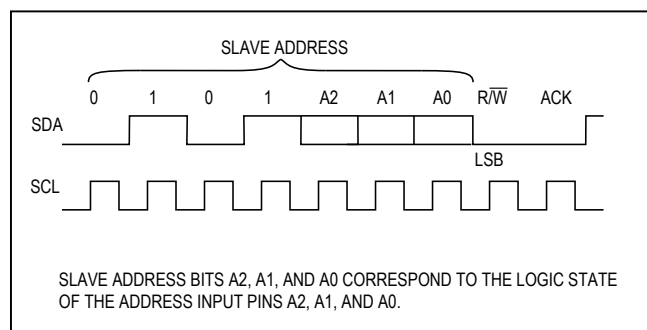
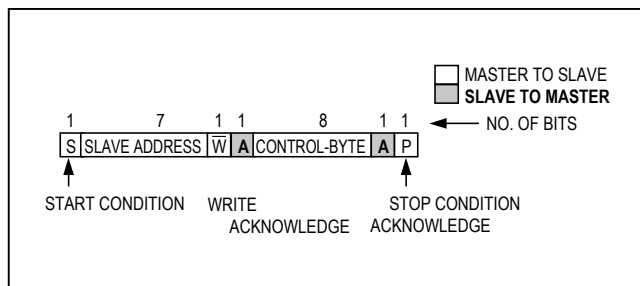
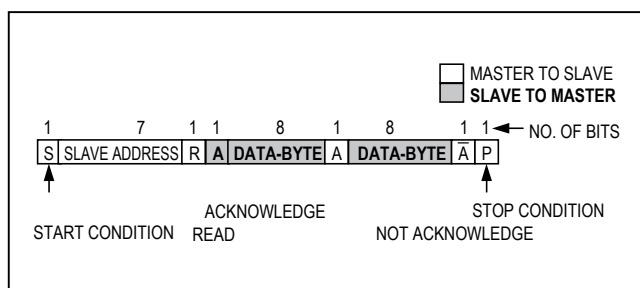
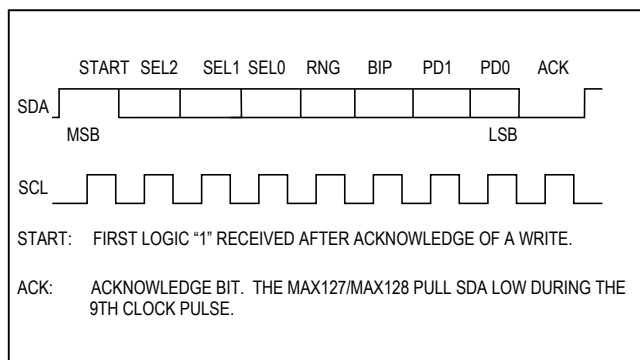

Figure 3. Address Byte
Figure 6. Write Cycle
Figure 7. Read Cycle
Figure 8. Command Byte
The MAX127/MAX128 have a 7-bit-long slave address. The first four bits (MSBs) of the slave address have been factory programmed and are always 0101. The logic state of the address input pins (A2–A0) determine the three LSBs of the device address (Figure 3). A maximum of eight MAX127/MAX128 devices can therefore be connected on the same bus at one time.
A conversion cycle begins with the master issuing a START condition followed by seven address bits (Figure 3) and a write bit ($R/\overline{W} = 0$). Once the eighth bit has been received and the address matches, the MAX127/MAX128 (the slave) issues an acknowledge by pulling SDA low for one clock cycle ($A = 0$). The master then writes the input control byte to the slave (Figure 8). After this byte of data, the slave issues another acknowledge, pulling SDA low for one clock cycle. The master ends the write cycle by issuing a STOP condition (Figure 6).
Once a conversion starts, the master does not need to wait for the conversion to end before attempting to read the data from the slave. Data access begins with the master issuing a START condition followed by a 7-bit address (Figure 3) and a read bit ($R/\overline{W} = 1$). Once the eighth bit has been received and the address matches, the slave issues an acknowledge by pulling low on SDA for one clock cycle ($A = 0$) followed by the first byte of serial data (D11–D4, MSB first). After the first byte has been issued by the slave, it releases the bus for the master to issue an acknowledge ($A = 0$). After receiving the acknowledge, the slave issues the second byte (D3–D0 and four zeros) followed by a NOT acknowledge ($\overline{A}=1$) from the master to indicate that the last data byte has been received. Finally, the master issues a STOP condition (P), ending the read cycle (Figure 7).